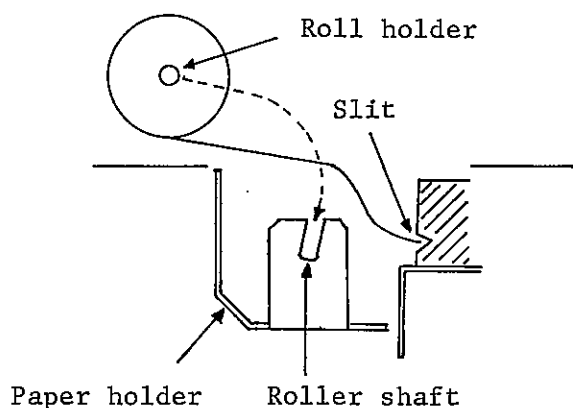

Fig. 14.3
- 3) Take the roll shaft out of the paper roll holder. Insert the shaft into a new roll of paper. Put the roll into the holder, orienting it as indicated in Fig. 14.3.